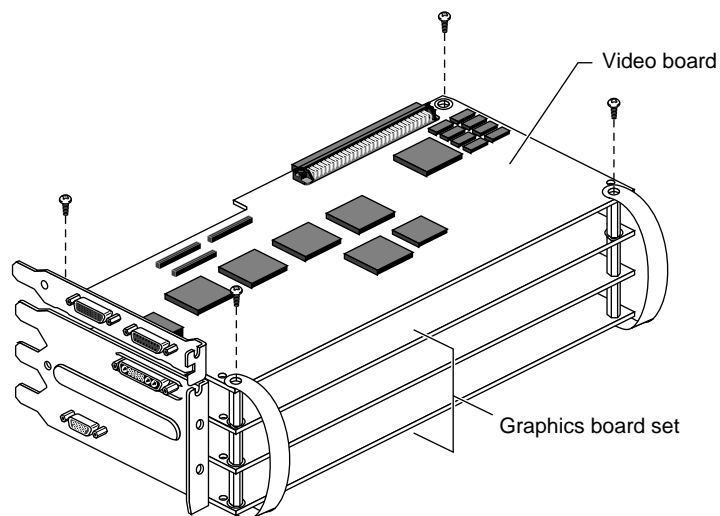

Figure 2-20 Aligning and Attaching the Video Board to the Graphics Board Set
3. Align the Indigo² Video board with the graphics board set and place it on the standoffs. (Figure 2-20).